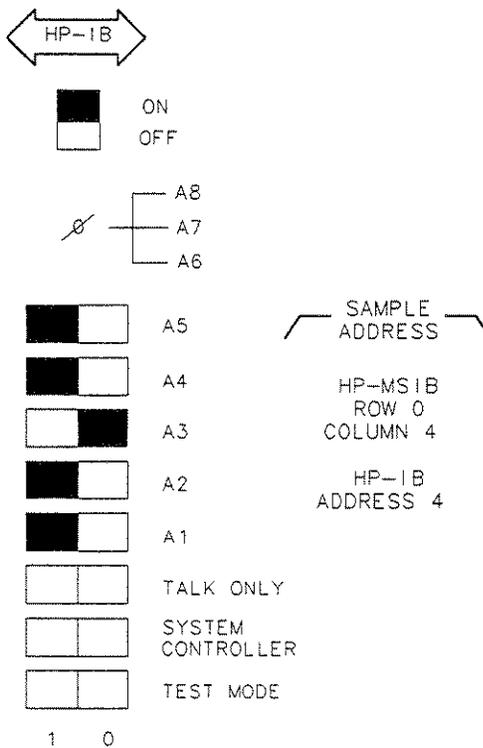

Figure 2-2. Module Address Switches
1. Locate the address switches on the rear panel of the module. See Figure 2-2 for an example of the switches.
When you set the HP-IB switch to 0 (OFF), the display disables the HP-IB. When switched, the HP-IB switch does not disrupt HP-MSIB instrument operation. Refer to Figure 2-2 for the location of the HP-IB switch.
A graphics display is an independent element. You may assign the display both HP-MSIB and HP-IB addresses. Figure 2-2 illustrates the display's address switches. The address switches are a group of two position toggle switches, which you can set to either 1 or 0.